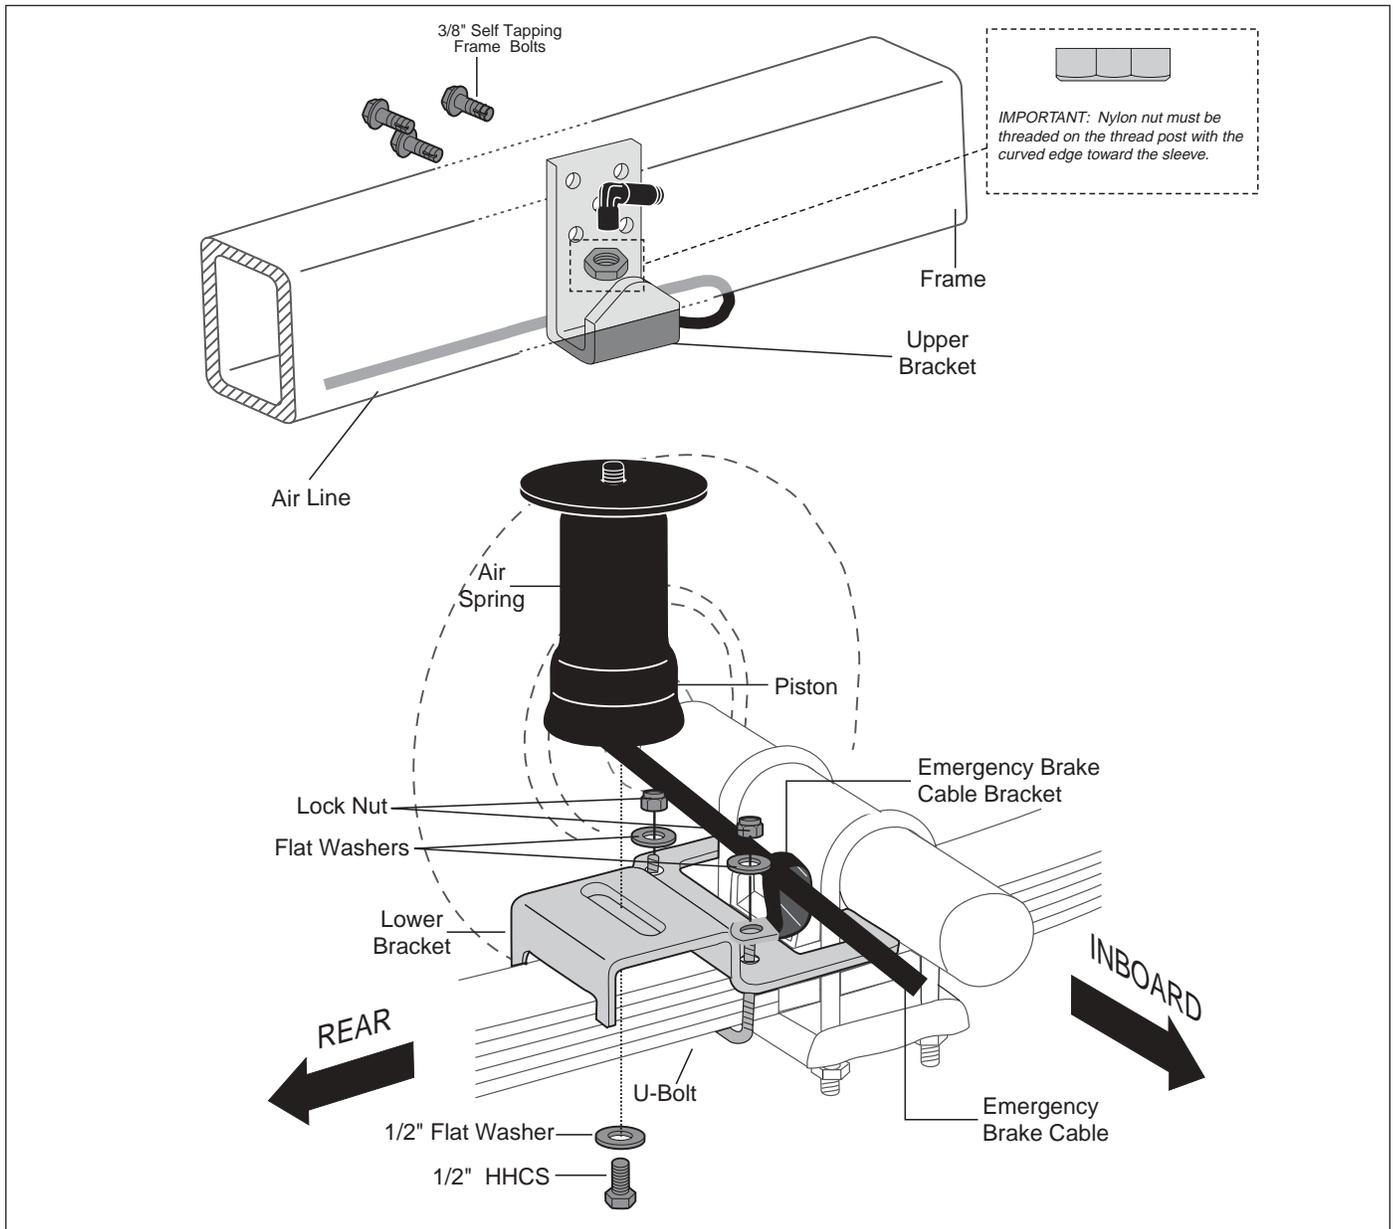

Figure 1
2. Insert the attached air fitting through the bottom of the J-bracket. Position the air fitting towards the rear of the vehicle for proper air line routing (Figure 1).
3. Slide the provided nylon nut over the air fitting and onto the threaded post. Make sure the curved side of the nut points toward the air spring (Figure 1).
*NOTE: The nylon nut must be threaded on the thread post with the curved edge facing toward the sleeve (Figure 1).*
5. Loosely attach the lower bracket to the bottom of the sleeve using a 1/2" bolt and 1/2" flat washer (Figure 1).
3. Set the assembly onto the leaf spring behind the axle. Butt the bracket against the spring perch. Make sure the "hook" or "finger" of the bracket is forward of the U-bolt (Figure 1).
4. Install the emergency brake cable clamp onto the emergency brake cable as shown in Figure 1. Secure the lower bracket to the leaf springs by using the provided U-bolts, flat washers, and locknuts.
*NOTE: The emergency brake cable clamps will attach to the inside post of the U-bolt (Figure 1).*
- b. Attach the upper bracket using the self-tapping frame bolts and tighten to 15 ft/lbs (Figure 1). Do not over tighten.
If the vehicle's headlights are shining into the trees or the vehicle is leaning to one side, then it is not level (fig. 1). Raise the air pressure to correct either of these problems and level the vehicle.